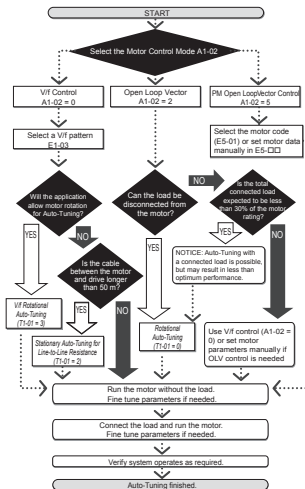

Figure 4.14 Auto-Tuning Selection
2. Determine which type of Auto-Tuning best fits the application requirements following *Figure 4.14.*